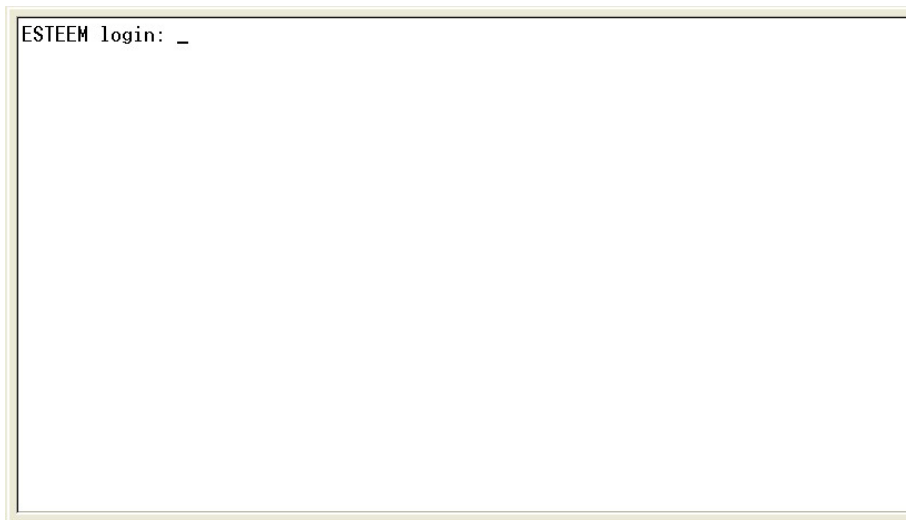

Figure 1: RS-232 Port Log-in Screen
5. Press the Enter key and you will be at the Configuration Menu 195C/M login prompt. See Figure 1.